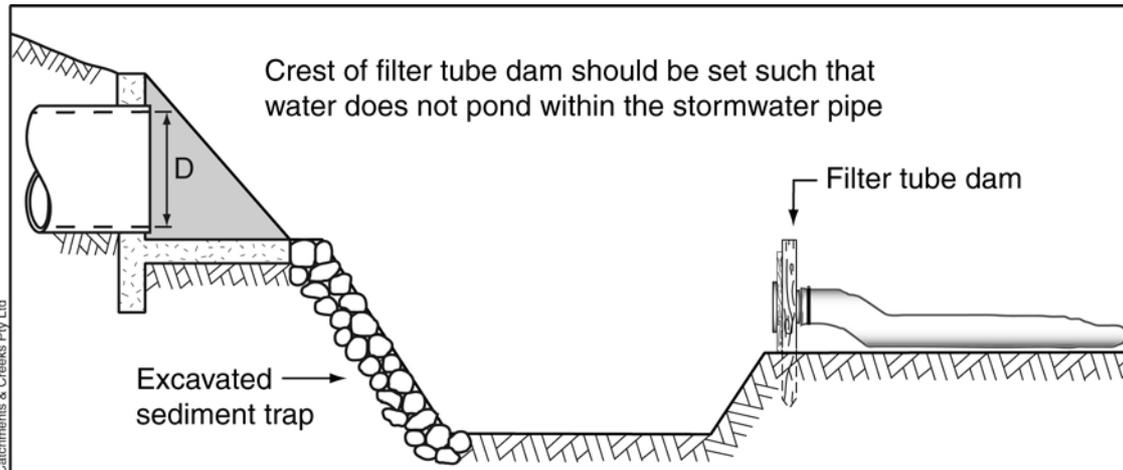
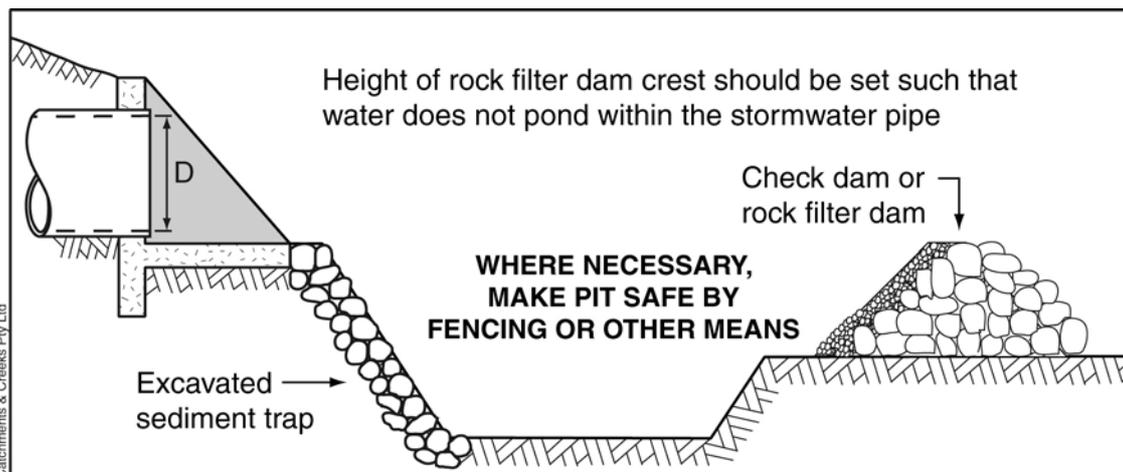

Figure 3 – Filter tube dam placed downstream of an excavated sediment trap to improve the sediment capture process
Figure 4 – Rock filter dam placed downstream of an excavated sediment trap to improve the sediment capture process
2. Sediment collection is primarily achieved through gravity-induced 'sedimentation'; however, the process can be improved by the attachment of an outlet system such as a *Filter Tube Dam* (Figure 3) or *Rock Filter Dam* (Figure 4) to the pit.
In circumstances where the stormwater pipe discharges at least 300mm above the receiving discharge channel, a *Filter Tube Dam* can be incorporated into the excavated sediment trap (Figure 3) to improve the sediment capture process.
In circumstances where the stormwater pipe discharges at least 500mm above the receiving discharge channel, a *Rock Check Dam* or *Rock Filter Dam* can be incorporated into the excavated sediment trap (Figure 4) to improve the sediment capture process. To further improve the treatment process, *Filter Tubes* can be incorporated into the *Rock Filter Dam*.